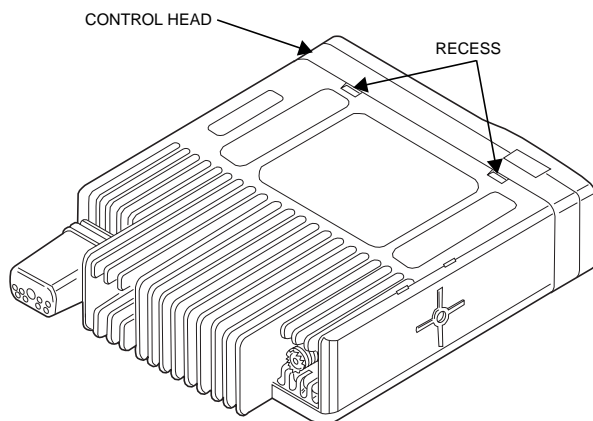

Figure 5-1. Control Head Removal
2. Insert a small flat blade screw driver, or similar, in the recess between the control head and the chassis. Refer to Figure 5-1.